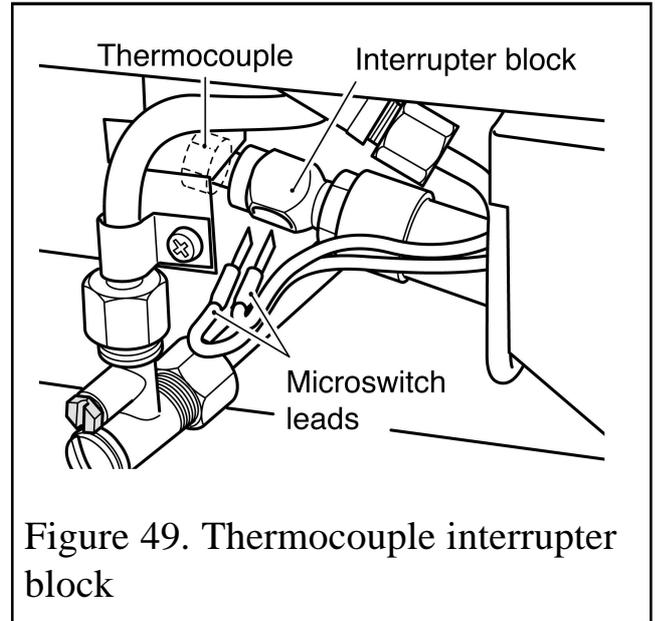

Figure 49. Thermocouple interrupter block
3. Loosen the thermocouple nut to free the microswitch leads and pull the leads clear of the thermocouple interrupter block (See figure 49).
(See figure 49).